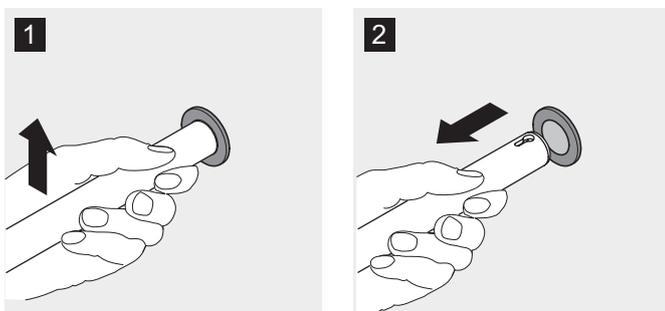

Fig. 15: Removing merchandise support
3. Slightly lift up the merchandise support/mounting bracket (Fig. 15/1) and pull away from the holder set (Fig. 15/2).